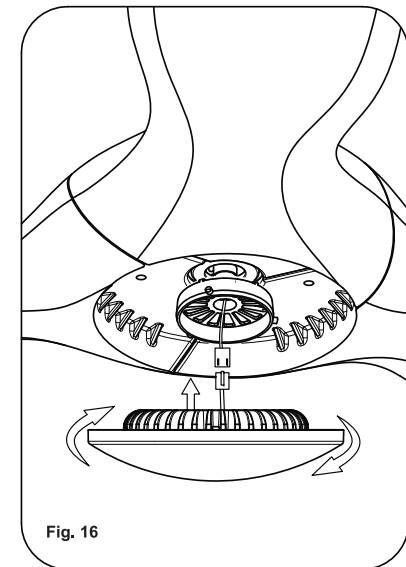

Fig. 16
Step 1. While holding the 15W LED assembly under your fan, firmly snap the wire connection plugs together. (Fig.16)
Step 2. Attach the 15W LED assembly to the switch box by twisting tightly. (Fig.16)